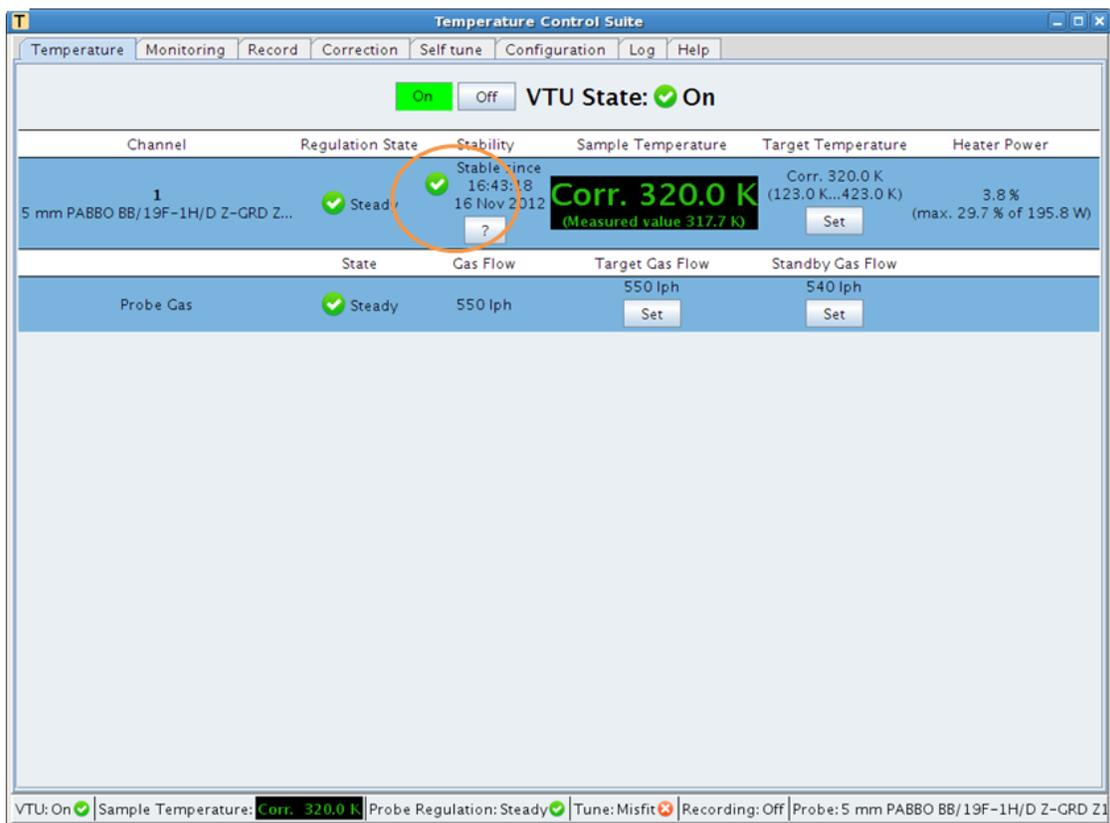

Figure 7: Target High Temperature Achieved
- Once the target temperature is achieved, go back to **Temperature** Tab, wait until the digits in the Sample Temperature field turning into green and the temperature stability is checked as circled in Figure 7.